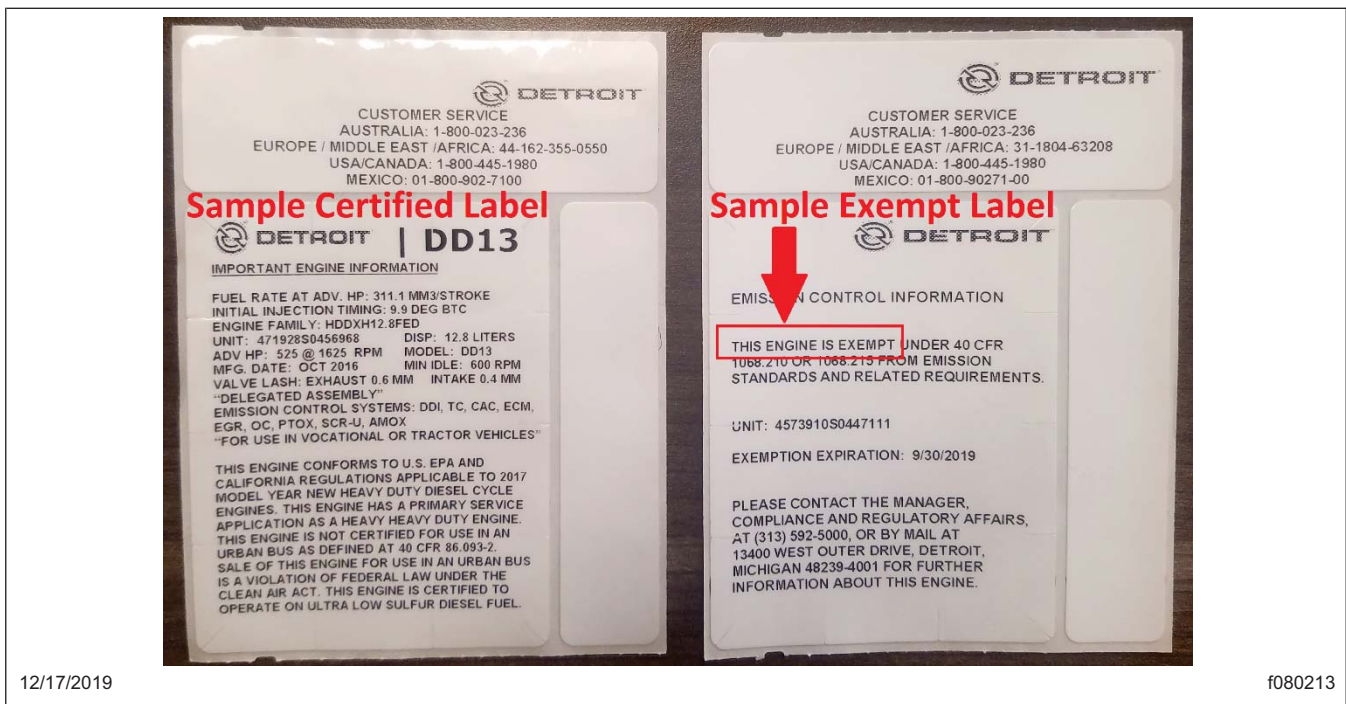

Fig. 4, Sample Labels
2. Check the emission label on the rocker cover. See **Fig. 4**.